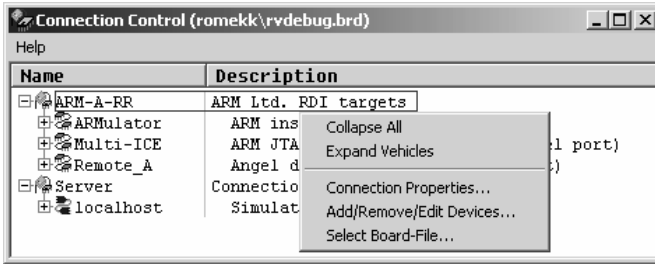

FIGURE 5 The Connection Control dialog box.
2. Select the Add/Remove/Edit Devices option from the right-click popup menu (Figure 5).